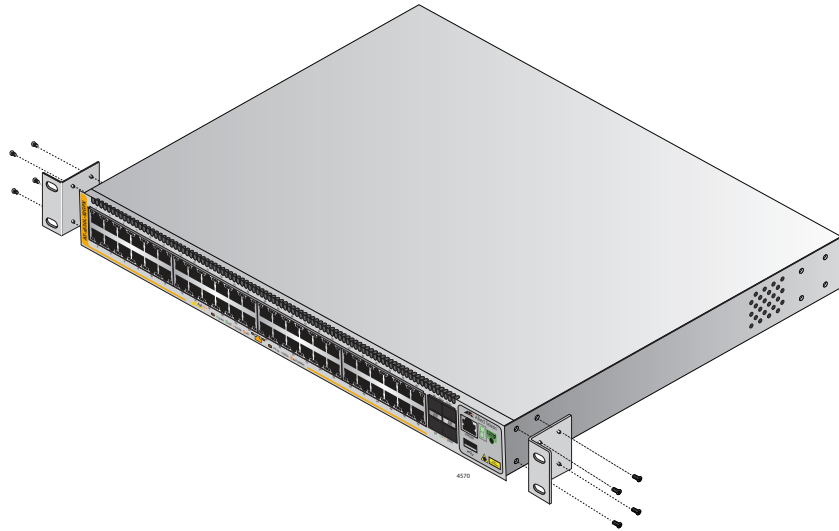

Figure 48. Example of Attaching the Brackets to the Switch
2. Attach the two brackets to the sides of the switch in the selected position, using the eight M4x6mm screws supplied with the unit. The illustration in Figure 48 shows the installation of the brackets such that the front panel of the switch is even with the front of the equipment rack.